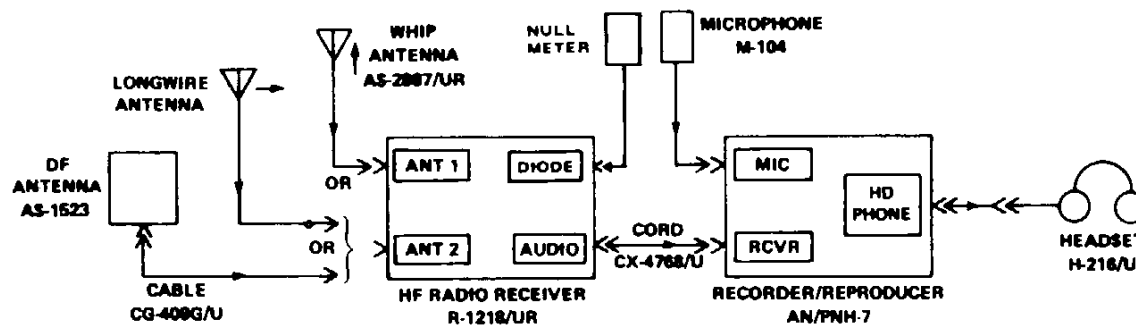

Figure 2-10. Connections of Radio Receiving Set AN/TRQ-30(V1)
a. HF Radio Receiving Set AN/TRQ-30(V1). Connect the equipment as shown in figure 2-10. For df operation, only the df antenna should be set up. The headset may be connected to the recorder/reproducer through the extender cord.
a. HF Radio Receiver R-1218/UR Signal types are: amplitude modulation (AM), single sideband (LSB and USB), and continuous wave (CW).
(1) Check to see that the components are properly connected as shown in figure 2-10 or 2-12. Check the control settings.
(2) Select antenna which works best. Move antenna as necessary for best reception.
(3) Set the FUNCTION switch to AM, LSB, or USB as required.